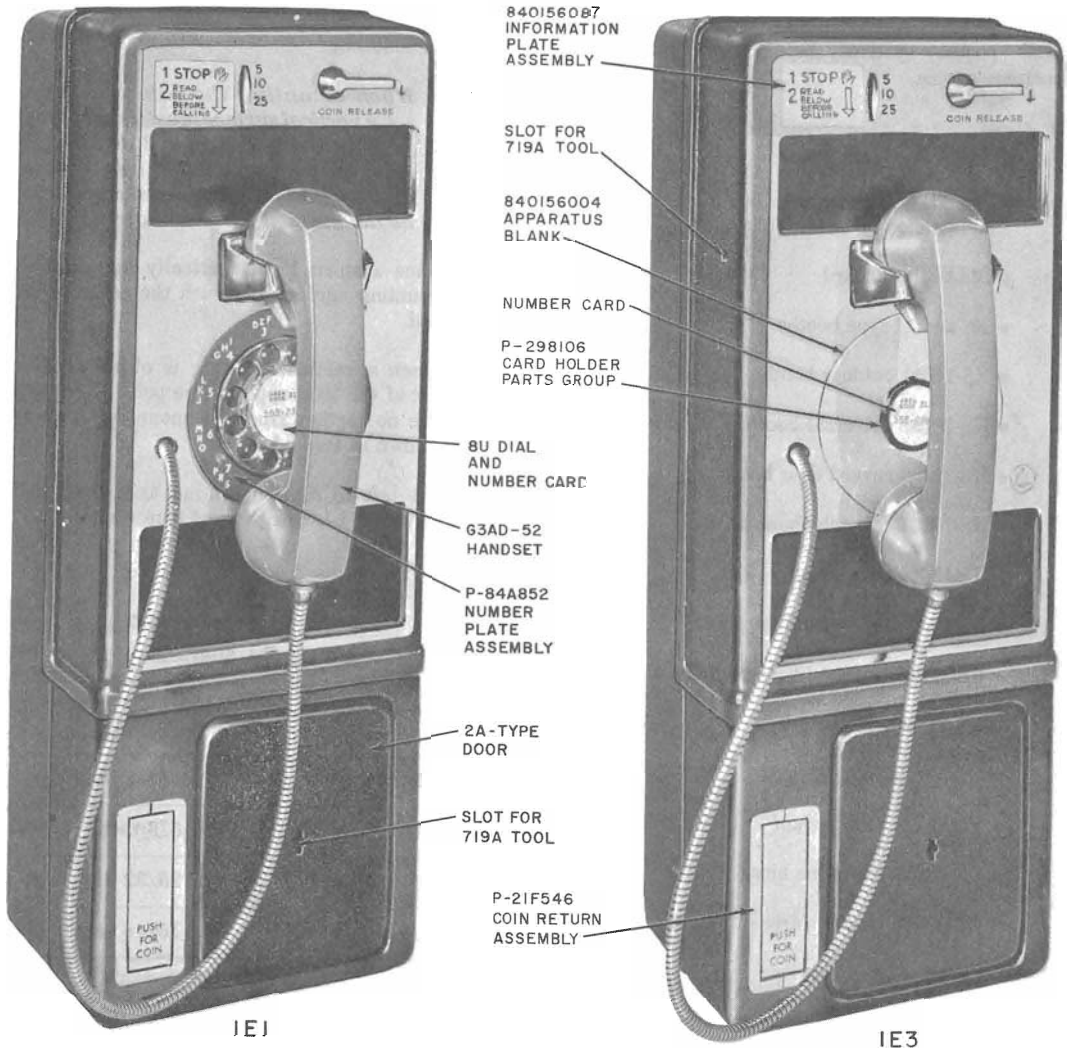

Fig. 1—1E-Type Coin Telephone Sets
- (1) Clean faceplate or panel of dirt and grime using KS-19578, List 1 cleaning fluid.
- (2) Wipe dry with a different, lint-free cloth.
(3) Apply 3M Company double sided industrial tape No. 9122 (or an approved equivalent) to the back surface of the information plate and trim neatly to size.
(4) Peel off the back protective tape covering, carefully orient the plate on the faceplate or front cover (Fig. 1) and press in place applying firm pressure to ensure complete adhesion.
**2.01** The 1E-type coin telephone set (Fig. 1) can be installed in/on the following: